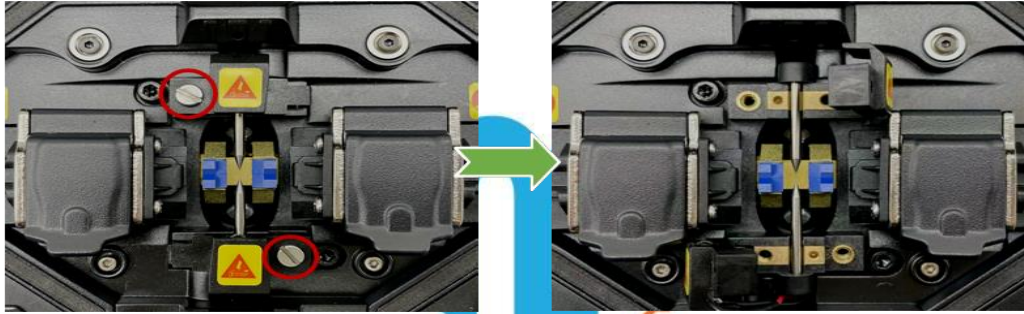

Figure 5.6 Remove the electrodes cover
- (1) Enter the “maintain” menu, select the “ARC”, then select “replace electrode”, and the fusion splicer will shut down.
- (2) Loosen setscrews of electrodes cover and remove the electrodes cover, as shown in Figure 5.6.
- (3) Take out the old electrode from the electrode holder.
- (4) Install the new electrodes into the original electrodes seat position. Close the electrodes cover and tighten the screws.
- (5) Power on the machine. Take an electrode aging. The electrode aging operation detailed in 5.6.
- (6) After replacing the electrode, please use automatic arc calibration for one arc calibration.